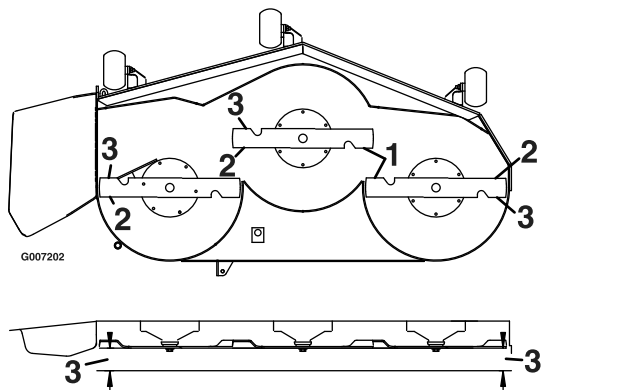

Figure 61
4. Measure between the outside cutting edges and the flat surface (Figure 61).